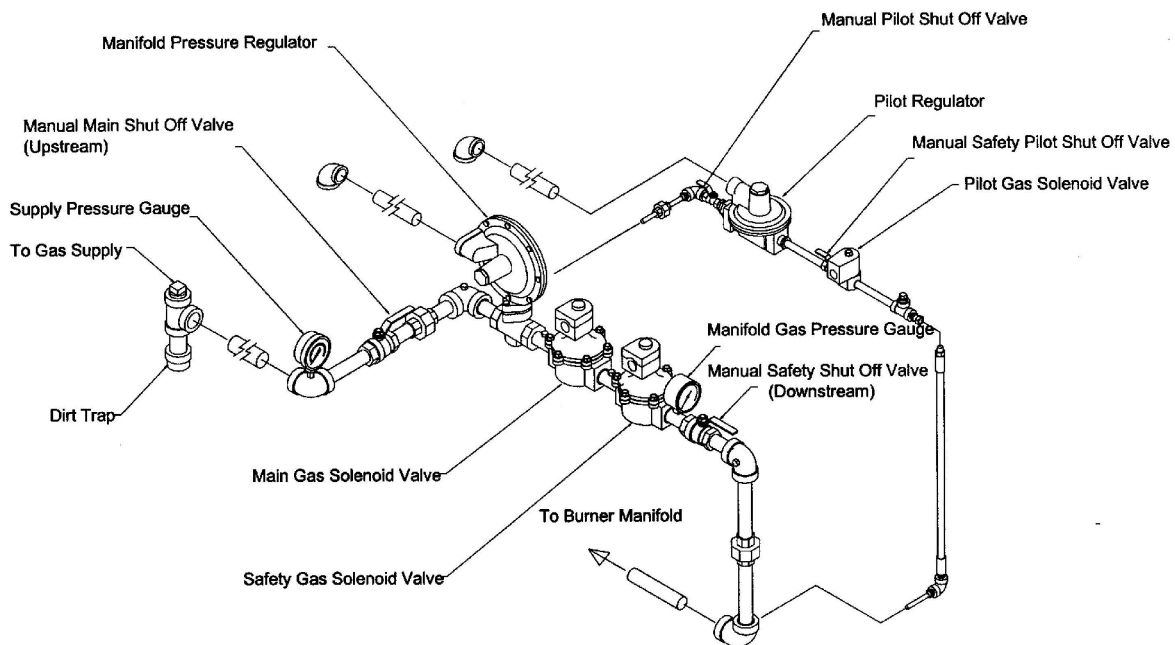

Figure 1 - Typical Hovey Gas Manifold
Figure 1 below illustrates the gas components used in a typical Hovey switch heater gas burner manifold. This particular drawing illustrates a switch heater equipped with two main burner solenoid valves (main and safety) which are required by certification test agencies when burner heat input rating exceeds 400 KBTU/hour. It is important to note that the main and safety solenoid valves are electrically connected in parallel (i.e. they operate simultaneously), but they are piped in series with respect to gas flow.
1. All Hovey switch heater manifolds are essentially the same as that depicted in Figure 1 (with the exception that not all switch heaters are equipped with dual main gas solenoid valves). The following components should be noted on this drawing: